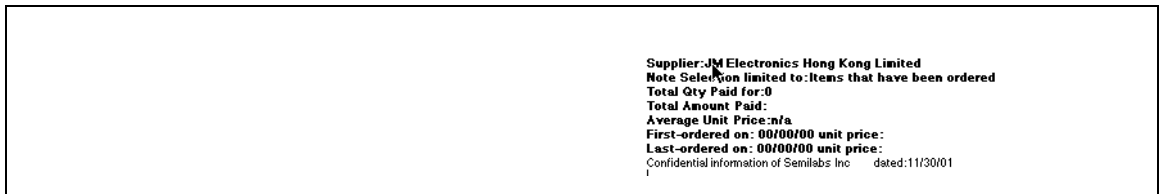

FIGURE 18.4
-  History data button Provides purchasing data on the supplier. This information is put in a 4D Write document. See figure 18.4 on page 18.11